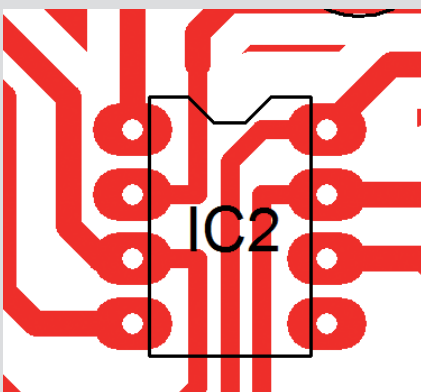

Fig.15. Running tracks below an IC
- Make use of your components to help you 'cross over' tracks when needed. Resistors and diodes are often wide enough to allow two or more tracks to be run between their two connections. Similarly, tracks may be run below an IC, as shown in Fig.15. You may need to reduce the track width when routing through tight gaps. Double-clicking a track or right-clicking on Properties will allow you to change the track width, as shown in Fig.16.